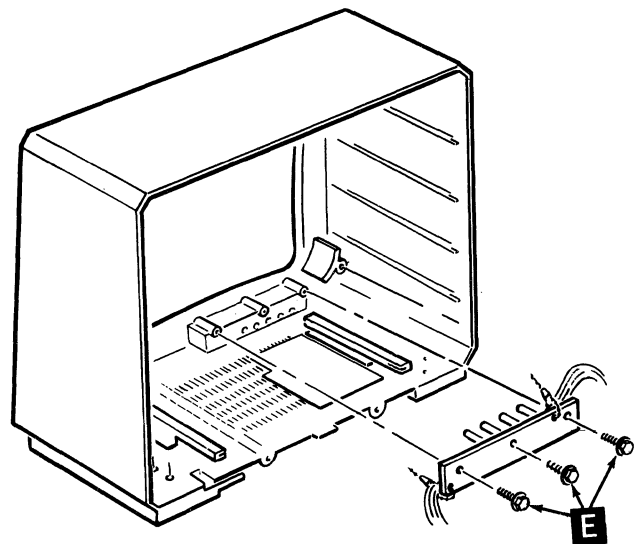

Figure 6.10
2. Refer to Figure 6.10 and remove the three 8-18 x .500" hex head screws at E that secure the control panel assembly to the back of the front of the cabinet.